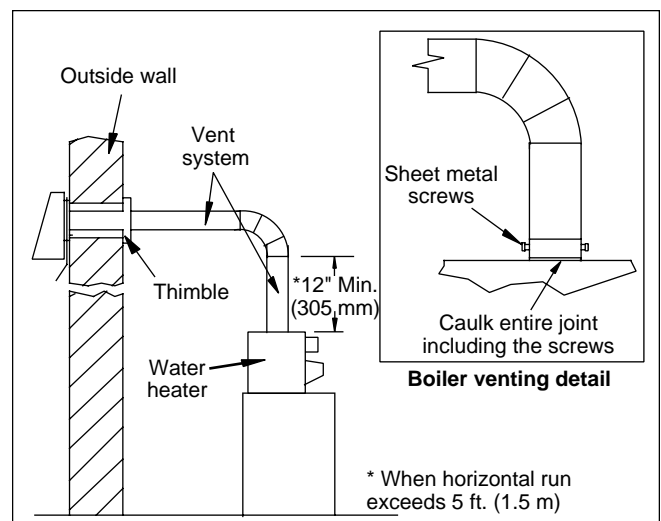

Figure 9. Horizontal Venting.
The water heater vent collar must be fastened to vent pipe of the same diameter, with rustproof metal screws no longer than 1/2" (13 mm) and sealed with high temperature 500°F (260°C) silicone sealant. For larger diameter vent pipes, use a sealed reducer fastened directly to the water heater collar and seal all joints as indicated in Figure 9. Allow the sealant to cure for 24 hours before operating the water heater.
- Attach a vertical pipe at least 12 inches (305 mm) high to the water heater outlet before the horizontal run if run exceeds 5 feet (1.5m) (see Figure 9).
A side wall vent terminal (hood) must be used when the water heater is vented through a side wall. Use Laars Part Number D2004300, 4" (102 mm) dia. The vent hood provides a means of installing vent pipe through the building wall, and must be located in accordance with ANSI Z223.1/NFPA 54, or in Canada CAN/CGA-B149 and local applicable codes (see Figure 9).